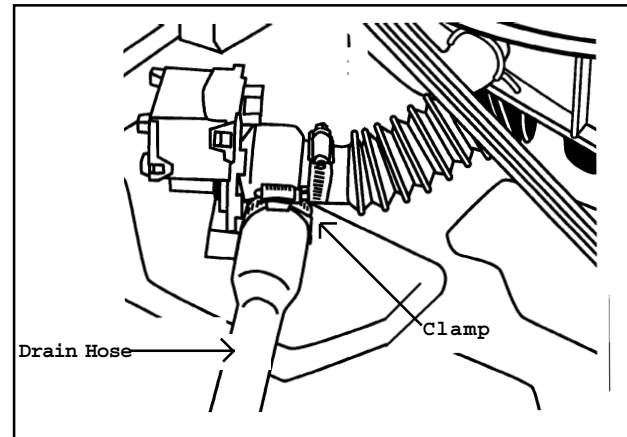

Figure 6-10
4. With access into the machine compartment, spread a towel under the connection of the drain hose to the pump. Loosen the clamp and remove the drain hose (*Figure 6-10*).